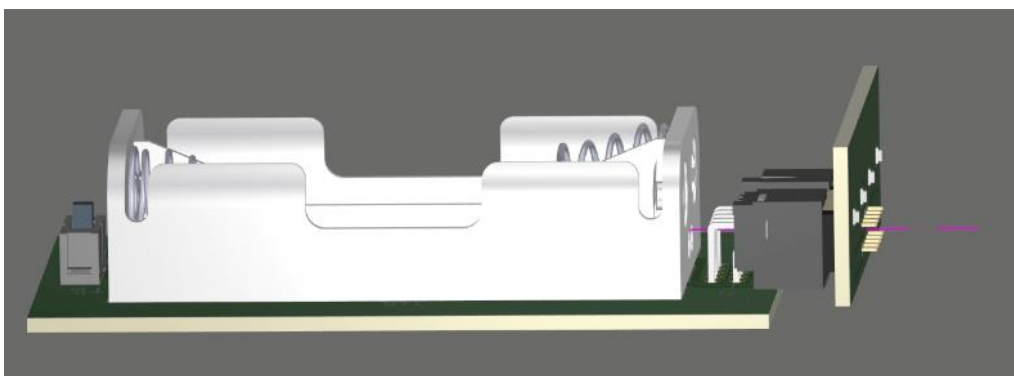

Figure 35. Desired Rotation of smaller board to that of larger board
69. Use the *Panels* button to open the *Properties* panel. It provides solutions to rotate the smaller board with the use of the Rotate Counterclockwise with **space bar** or Rotate Clockwise with the **Shift Key + Spacebar**. Use either method to rotate the smaller board against its mated larger board until you achieve what is shown in Figure 35.